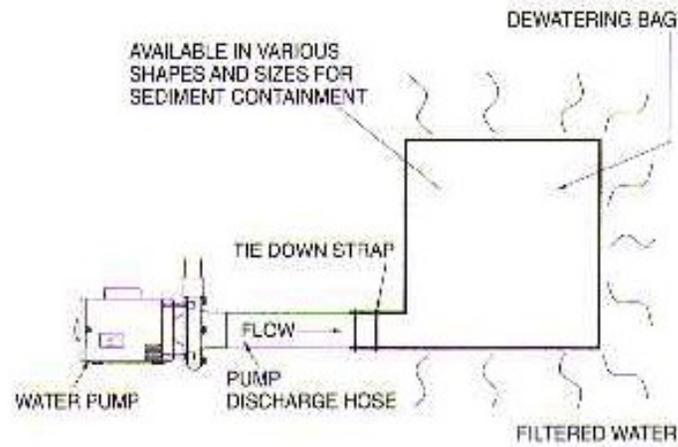

Figure 3 – Example of Filter Stock or Filter Bag Use
- Use a filter bag/sock or pump box at the discharge end of the dewatering pump hose to capture sediment (see Figure 3); or